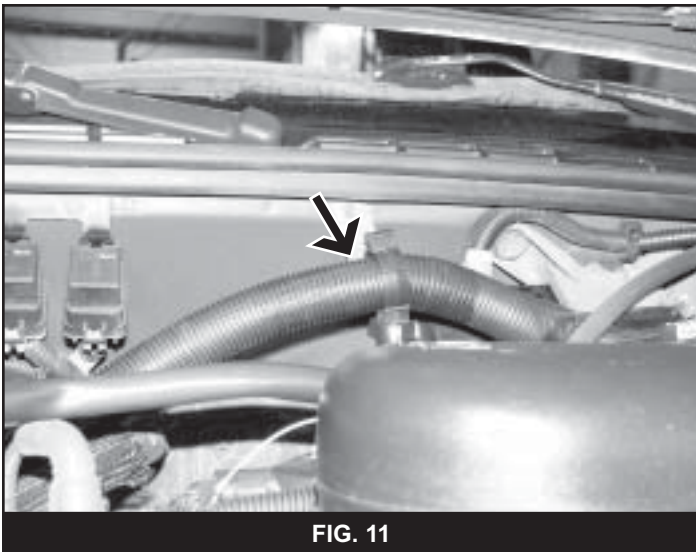

FIG. 11
16. Remove the large wiring harness running along the firewall from the retaining clip at the middle of the engine compartment (Fig 11).